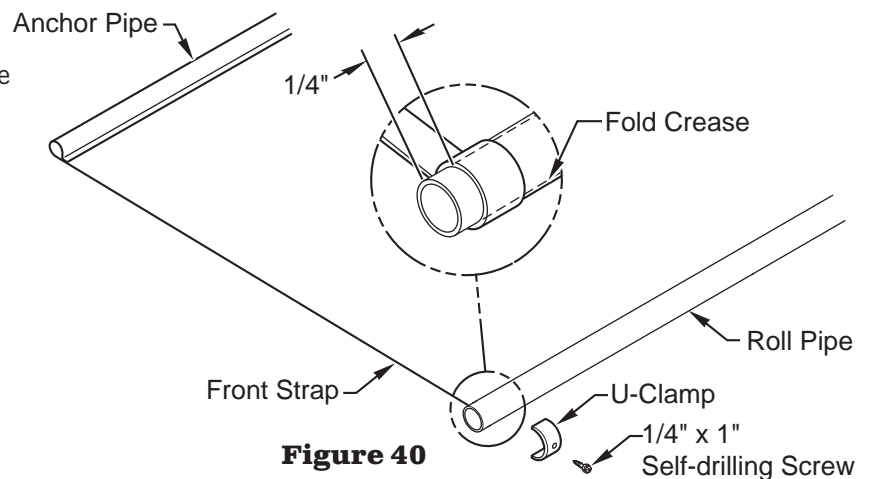

Figure 40
2) See Figure 40. Cut the anchor pipe flush with the ends of the pocket on the tarp.
4) See Figure 40 Slide the anchor pipe into the tarp pocket and secure with #14 x 1 PPH self drilling screw.
5) See Figure 40. Slide the roll pipe into the other pocket and leaving 1/4" sticking out at the front of the tarp.
6) See Figure 40. 1/4" from each end and 40" apart, secure tarp to roll pipe with U-clamp and #14 x 1 PPH self drilling screw.